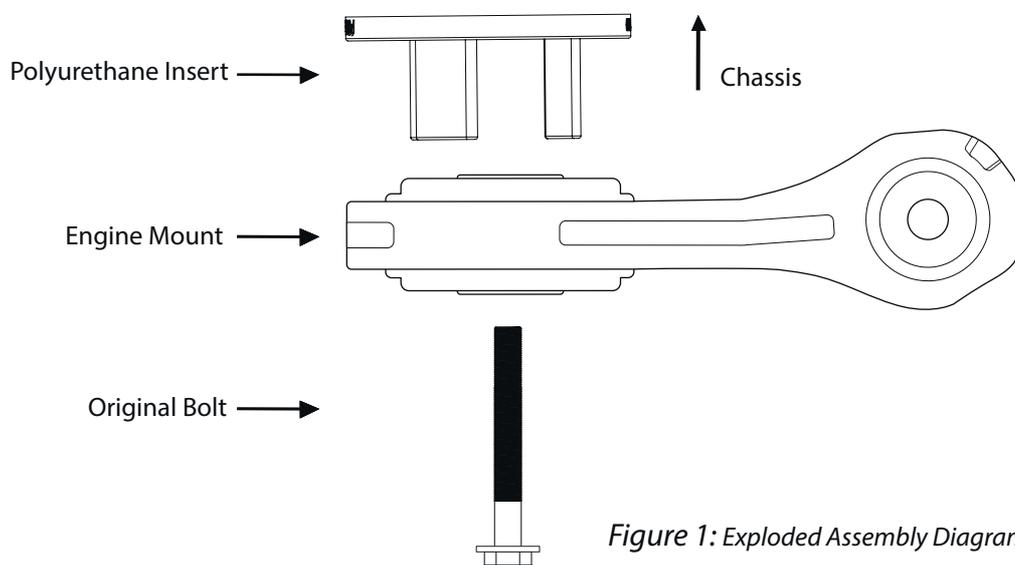

Figure 1: Exploded Assembly Diagram
3. Fit polyurethane insert into the engine mount bush with top face sitting against the chassis, as shown in *Figure 1*.